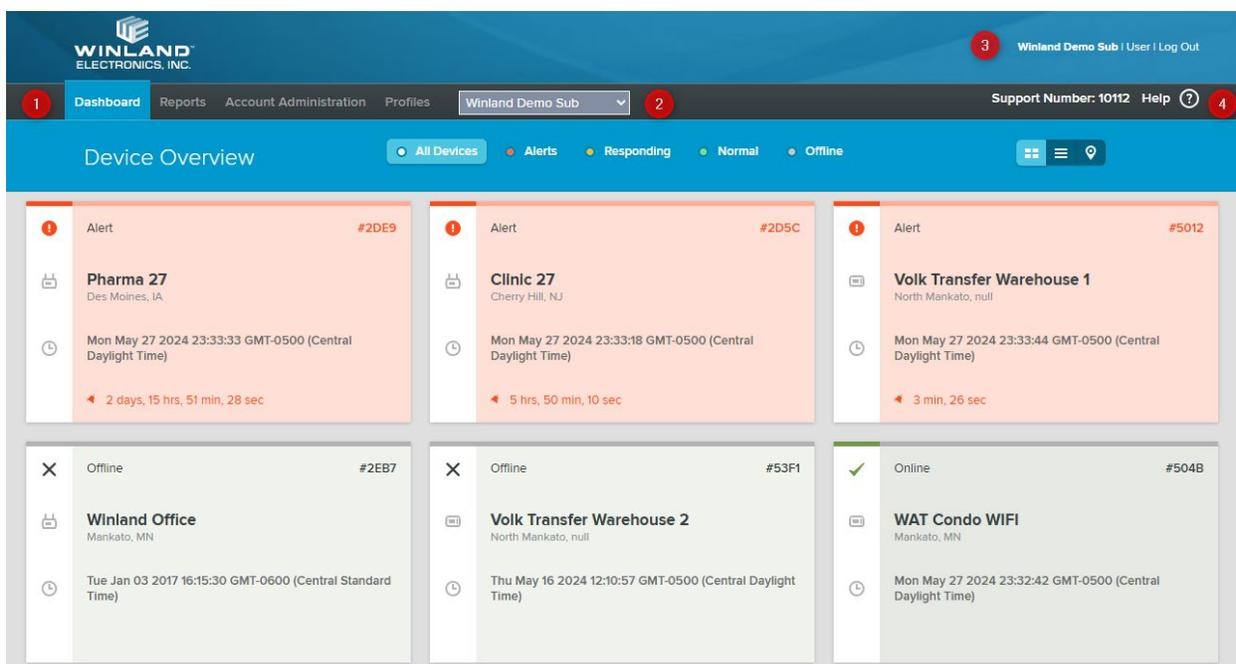

Figure 2-1 INSIGHT User Interface
The **INSIGHT** platform opens with the dashboard, as shown in **Figure 2-1**. Common to every application page are the ① *menu navigation tabs*, the ② *customer account selector*, the ③ *current Customer Account, Username*, and **Log Out** button, and the ④ **Help** button.